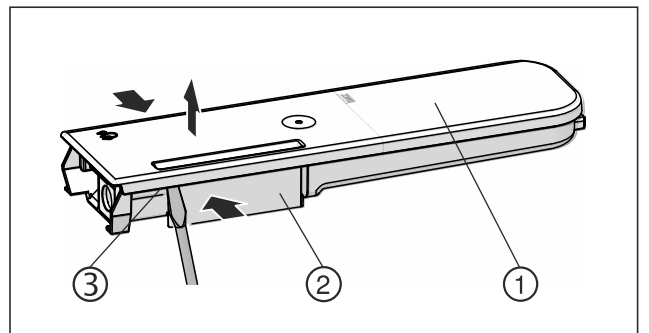

Fig. 128
- Push the water tanks Fig. 128 (2) together, leverage the cover Fig. 128 (1) carefully over the latching tabs Fig. 128 (3) and lift it up.
- Move the cover Fig. 128 (1) slightly forwards and back, and remove to the top.